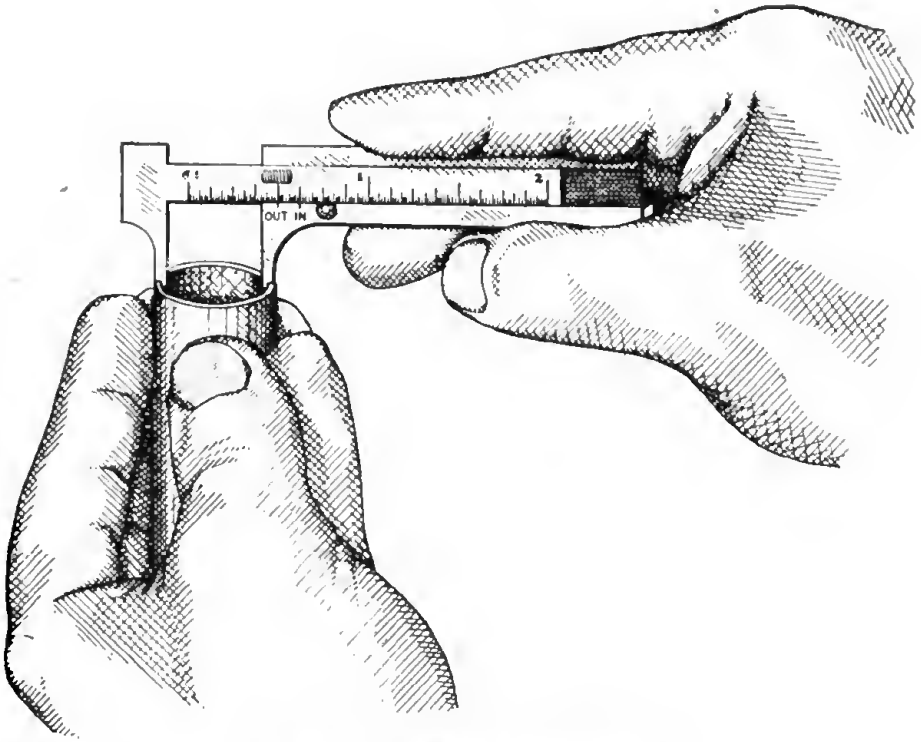
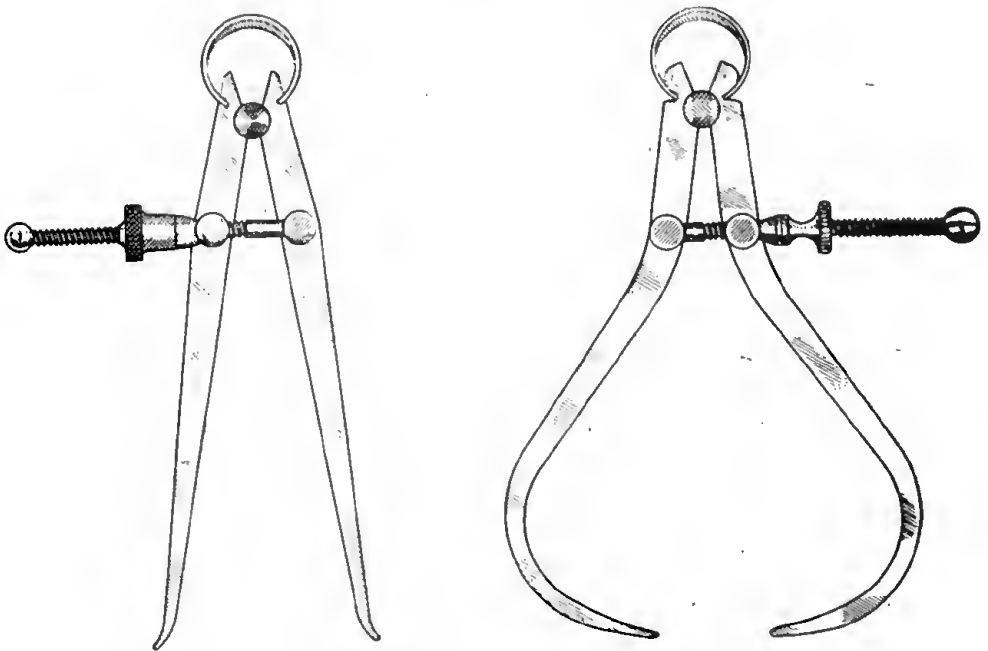
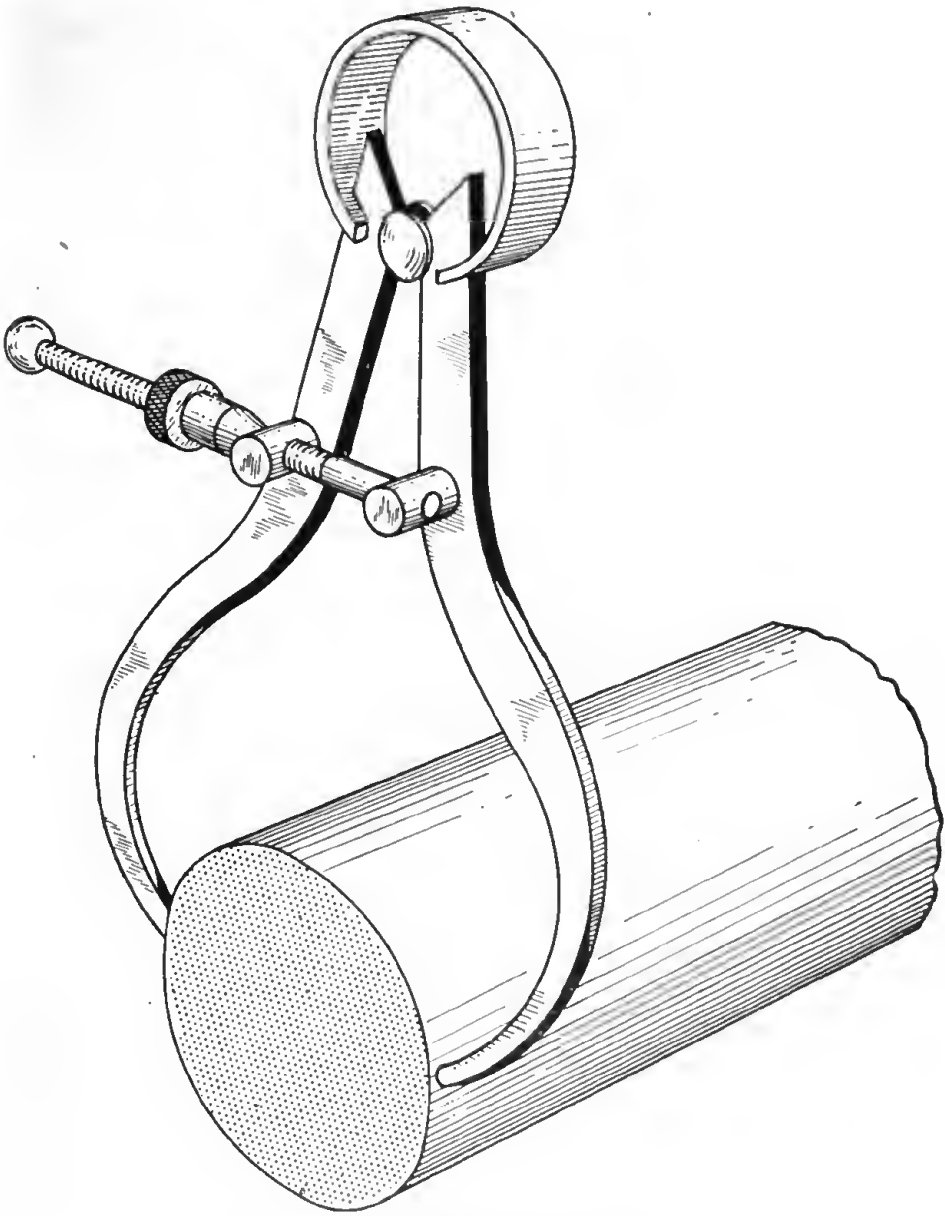

Figure 65. Using sliding calipers.
Figure 66. Spring calipers.
Figure 67. Spring calipers in use.
b. SLIDE POCKET CALIPERS. (1) These calipers (also called sliding calipers) have a fixed jaw fastened to the end of a bar and a movable jaw fastened to a frame which slides on this bar. (See fig. 65.) The bar has a scale on it and the frame has two index marks labeled "In" and "Out." One side of the jaws is made to take outside measurements. The other side of the jaws is made to take inside measurements.
(2) To measure the outside diameter of a round bar or the thickness of a flat bar, the jaws of the calipers are opened and placed over the stock. The movable jaw is then slid forward until the jaws just touch the stock. The calipers may then be removed and the dimension opposite the "Out" index mark can be read. To take an inside measurement, the jaws are placed inside and spread apart until they just touch the stock. The dimension may then be read as before, using the "In" index mark. Sliding calipers should be kept clean and oiled. They should never be jammed tightly on the stock. If they are, the jaws are likely to be sprung and the calipers will be ruined.
c. SPRING CALIPERS. Spring calipers are shown in figure 66. They have no scale and are used only to transfer dimensions. They are quite often used on lathe work. By adjusting them to the proper position, they may be used to determine when sufficient stock has been cut away. (See fig. 67.) Spring calipers should not be used when the stock is moving, nor should they be forced on the stock. They will probably not be damaged, but they will spring slightly and give an inaccurate measurement.